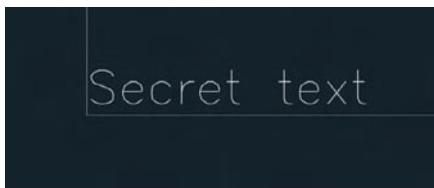

**FIGURE 2.3** Zooming into a window
7. Select Zoom Window from the Navigate panel's Zoom flyout. Click points A and B, as shown in Figure 2.3. The area of the rectangle you draw is magnified to fill the canvas.